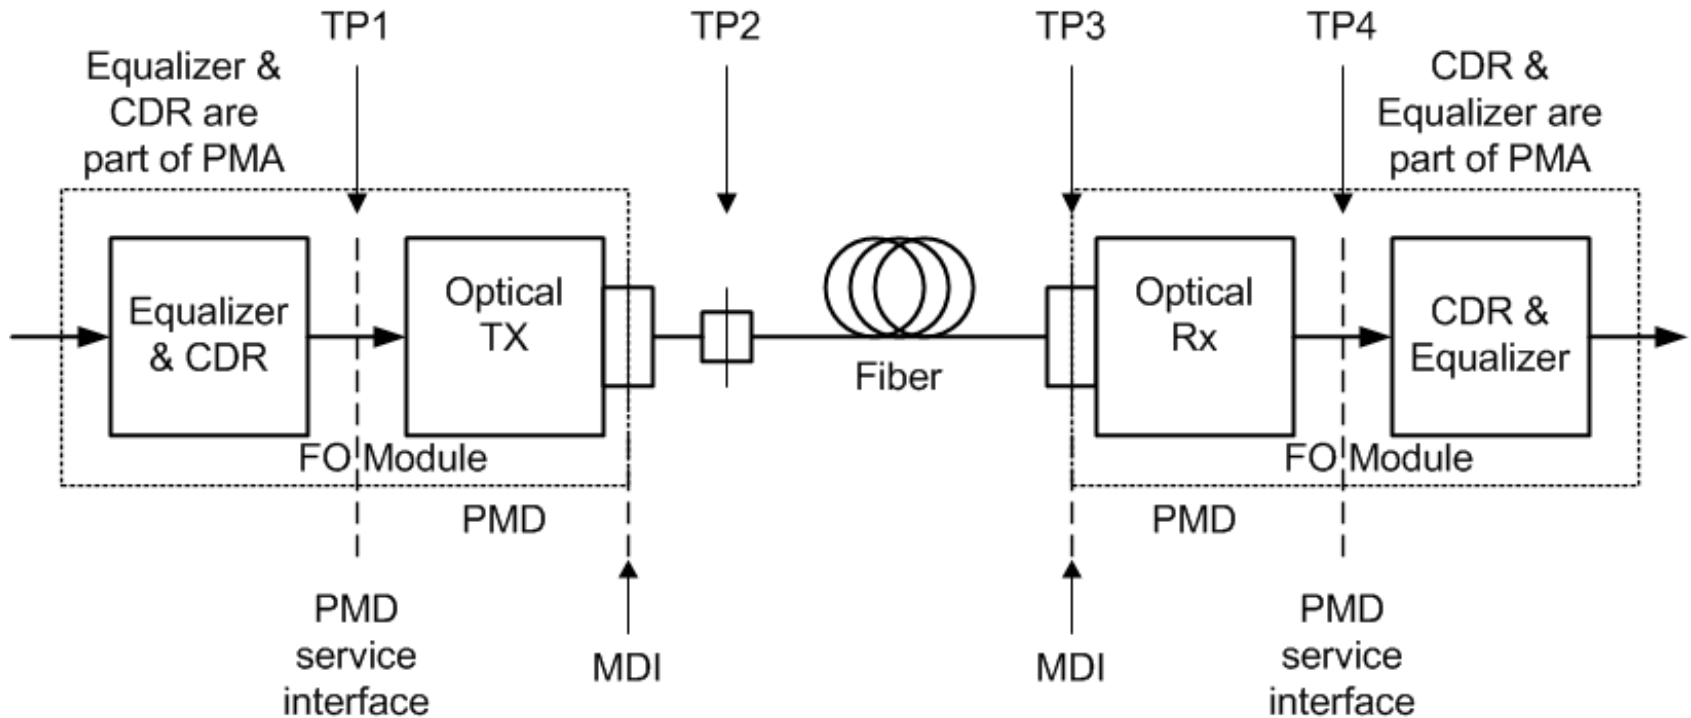

Figure 1
- For cases, as shown above in Figure 1, where retimers are embedded in the optical module, the PMD service interface is not exposed. TP1 and TP4 remain as points on the PMD service interface and, consequently, not exposed.
Nomenclature: Terms TP1, TP2, TP3 and TP4 are used as defined in 802.3 clause 86 and shown in above Figure 1. Note that TP1 is downstream of the input CDR and equalizer for an optical transmitter.